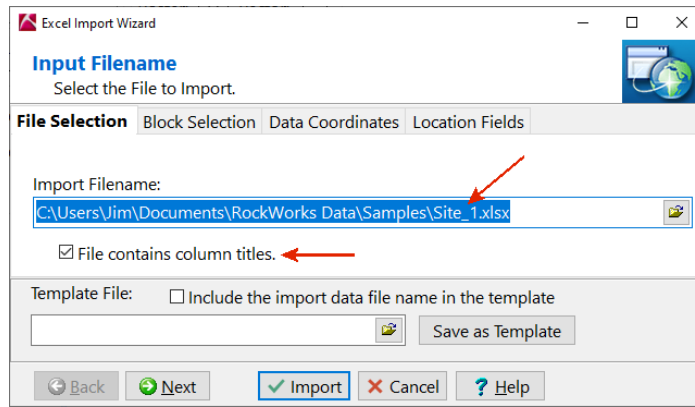

Figure 46
- Set the *Import File Name* to the “Site_1.xlsx” file within the Samples folder (Figure 46).